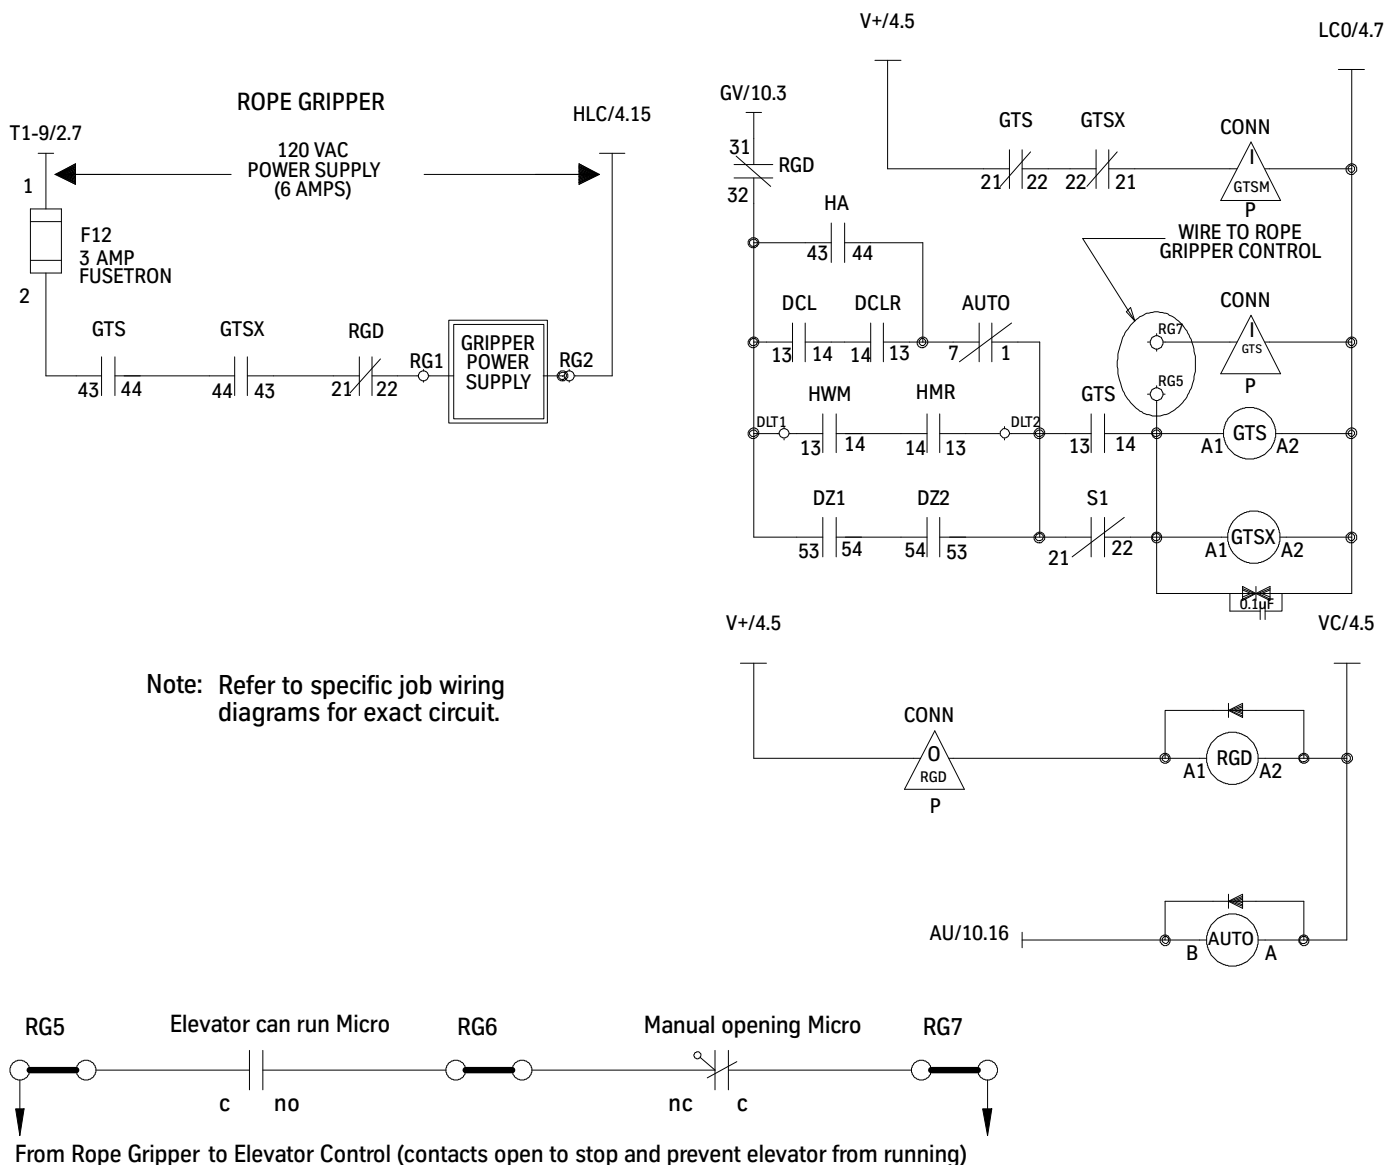

Figure 11 - Typical VE Controller Circuit for the HW Rope Gripper
- To prevent a ground from rendering a protective device ineffective, ground one line of the control circuits and rope gripper supply, and wire the protective devices and contacts in the other line. See Figure 11.